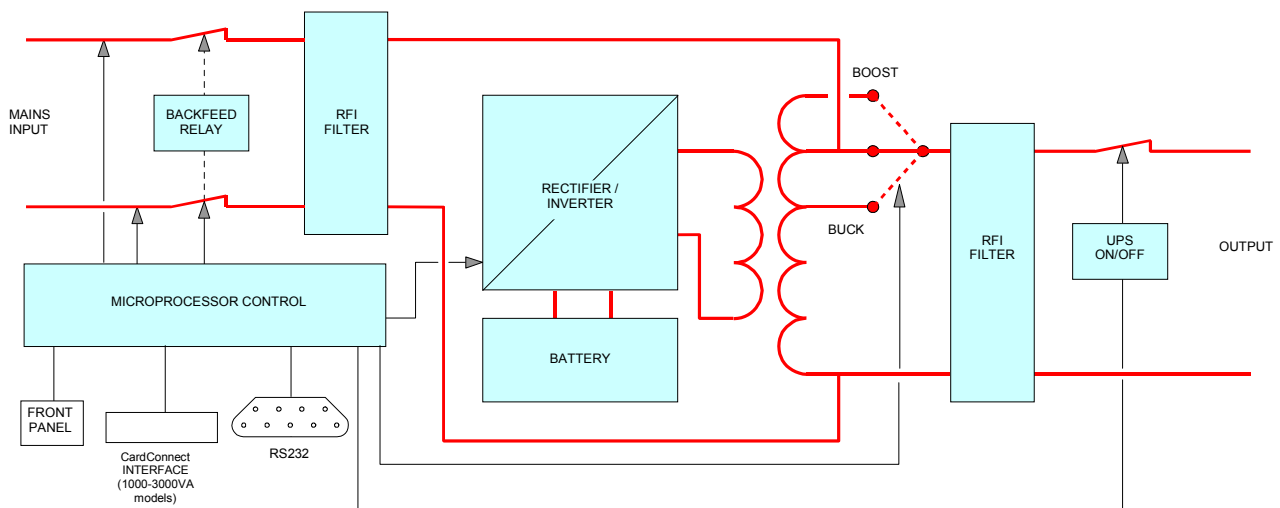

Fig. 1 Block diagram **Match 19"** UPS 700 - 3000
The **Match 19"** UPS stores electric energy in batteries housed in the unit. This allows the UPS to supply output power even when the incoming mains power is cut off completely. Energy is stored as Direct Current (DC), while input and output energy must be Alternating Current (AC). Therefore the UPS contains a rectifier (to convert from AC to DC) and an inverter (to change energy from DC to AC). (See fig.1)